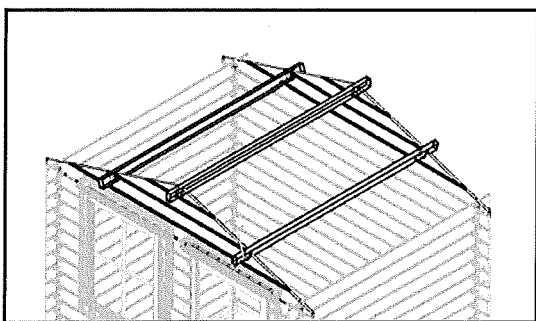

FIG 10
1. Fit roof bearers into slots provided in gable sections (fig10).